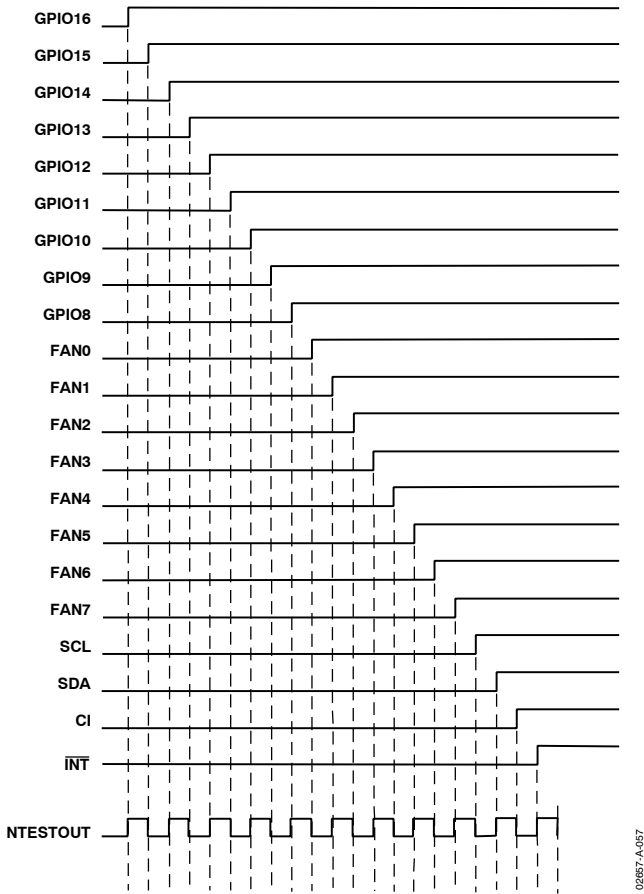

Figure 57. NAND Tree Test Taking Inputs High in Turn
1. Start with all inputs low and take them high in turn, starting with the input nearest to  $\overline{\text{NTEST\_OUT}}$  (GPIO16/ $\overline{\text{THERM}}$ ) and working back up the tree to the input furthest from  $\overline{\text{NTEST\_OUT}}$  ( $\overline{\text{INT}}$ ). This should give the characteristic output pattern shown in Figure 57, with  $\overline{\text{NTEST\_OUT}}$  toggling each time an input is taken high.